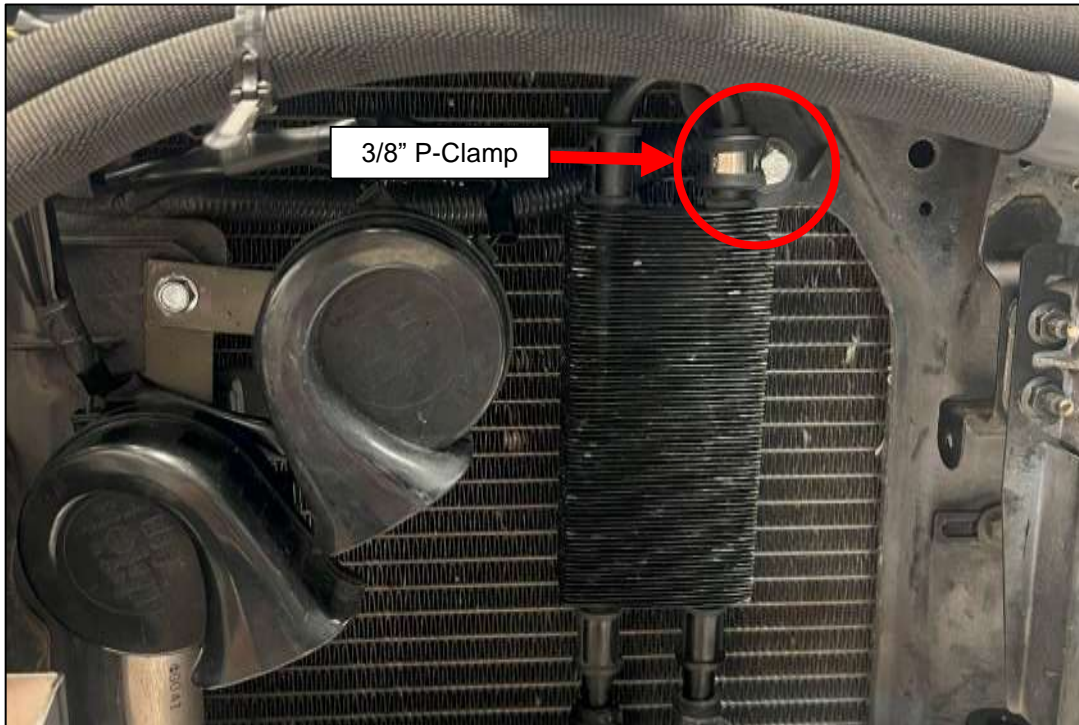

Figure 23
13. Locate the 3/8" Cushioned P-Clamp (#36) and (1) one M6 x 1.0 SEMS Bolt, 25mm (#39). Install the P-Clamp onto the Power Steering Cooler and secure it to the Horn Mount on the Core Support using the M6 Bolt as shown below. *Figure 23.*